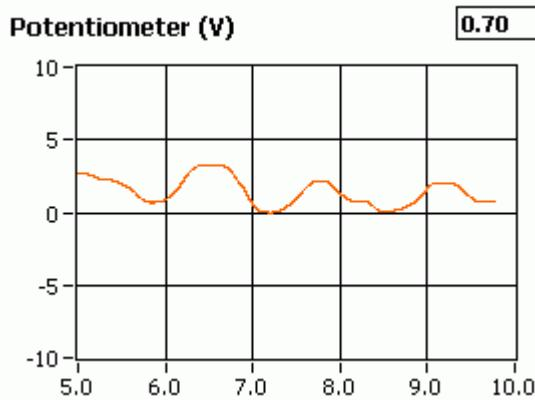

Figure 48: Sample saved response.
3. The resulting image that is saved is shown in Figure 48.